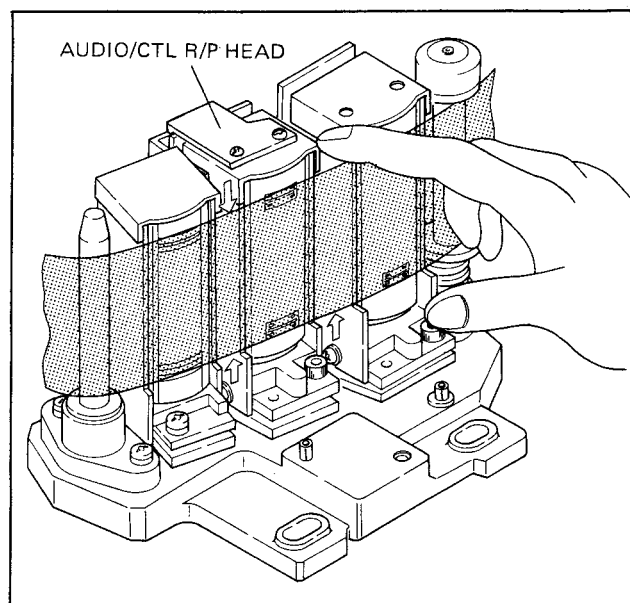

Fig. 3-93. Audio/CTL R/P Head Height Check
3. Check that clearance "G" becomes wide when the tape edge near the audio/CTL R/P head is pushed up or down, as shown in Fig. 3-93.